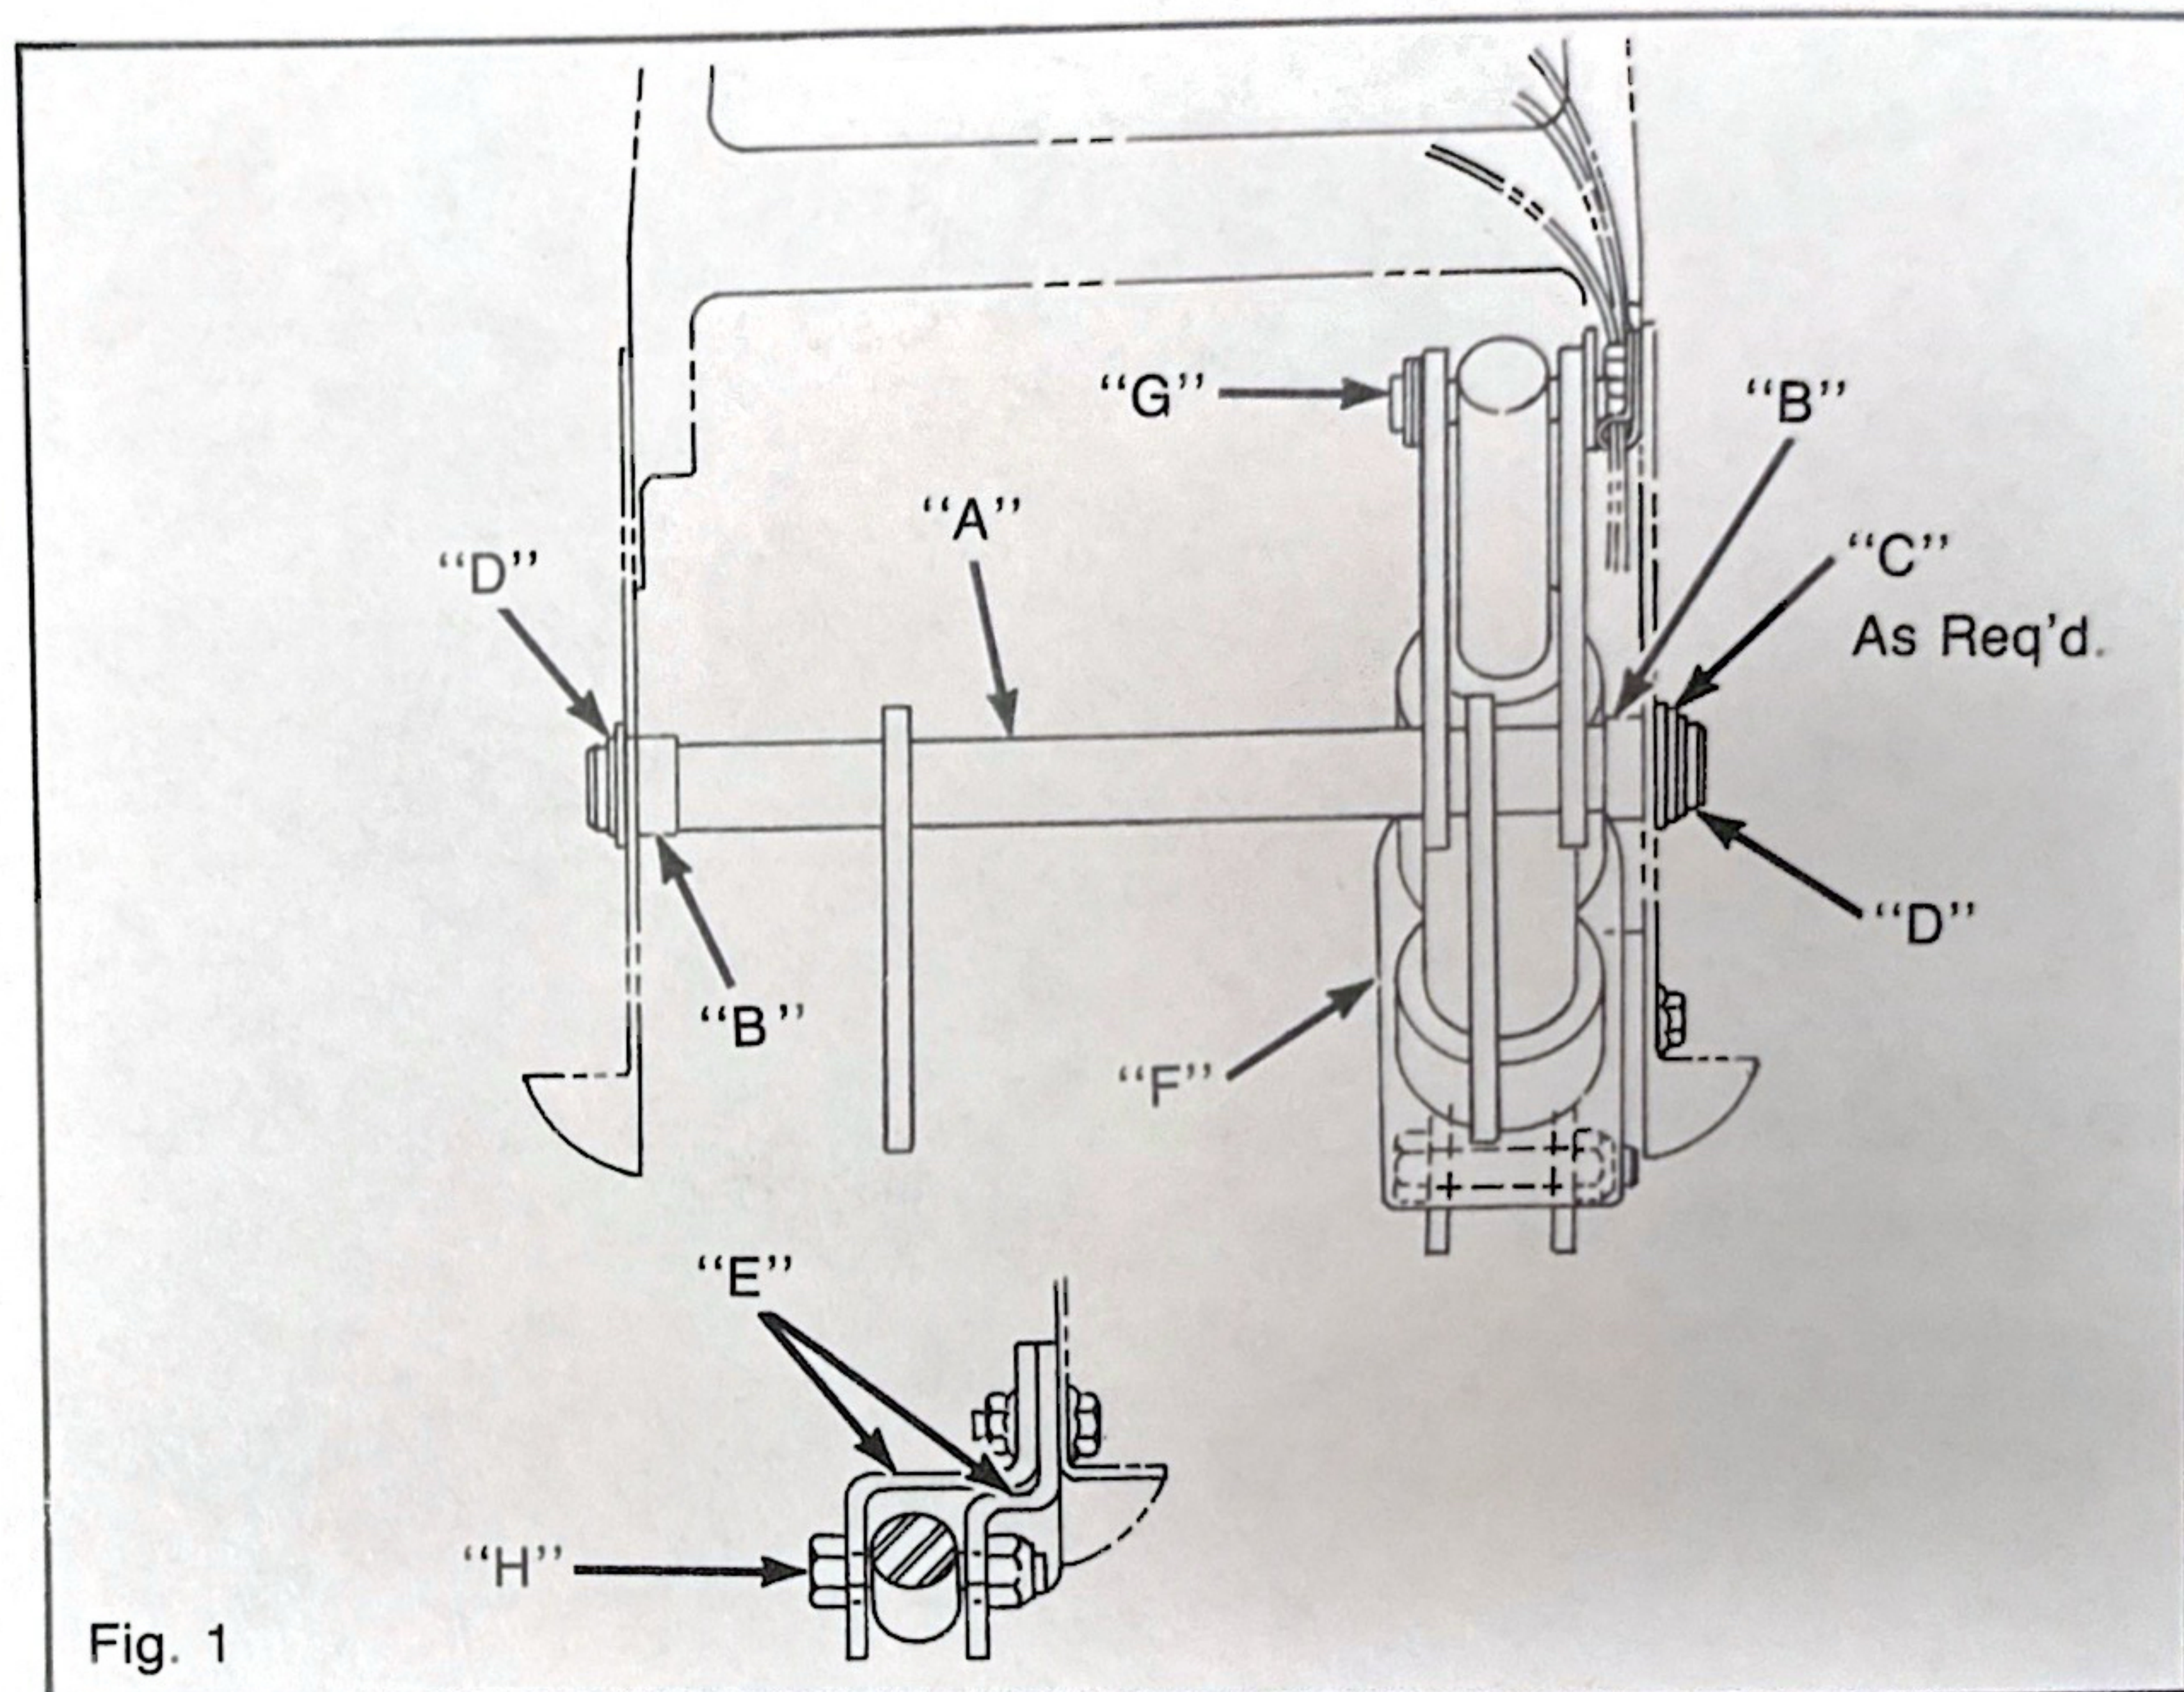

Fig. 1
1. Install lift shaft "A" Figure 1, by inserting long end into Right frame rail first. Install short end into bushing "B" in Left frame rail.
3. Place a shim washer "C" Figure 1, over each end of lift shaft as necessary (no more than two shims total) and secure assembly with retainer ring "D" on each end.
Secure support brackets "E" Figure 1, to Left frame rail with 3/8-16 x 1 flange capscrews and nuts as shown in Figure 1.
Position actuator "F" between the lift arms and secure with 1/2 x 2-1/4 clevis pin "G", two 1/2 flat washers and spring cotters as shown in Figures 1 and 2. Note: The flat washers are to be installed under the head of the clevis pin.
Position opposite end of actuator in support bracket as shown and secure with 1/2-13 x 2-1/4 hex capscrew and locknut "H". See Figures 1 and 2.